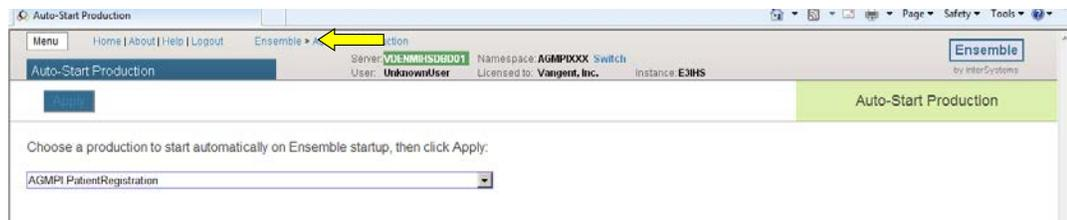

Figure 9-7: **Auto-Start Production** page after clicking **Apply** button
- Click **Ensemble** on the top of the page, as shown in Figure 9-7, to return to the **Management Portal** page.